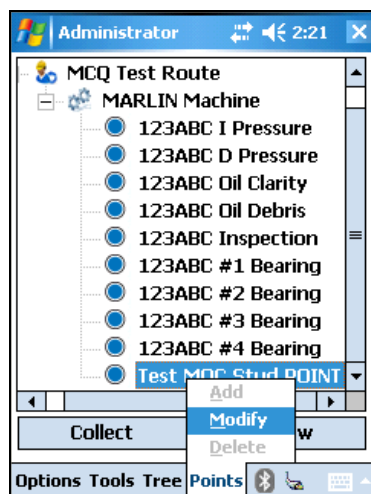

Figure 2. Modify POINT
3. In the MARLIN hierarchy list, navigate to the POINT that will be associated with the connected Smart MQC, select **Points**, and then select **Modify**. [Figure 2] The POINT setup screen will appear.